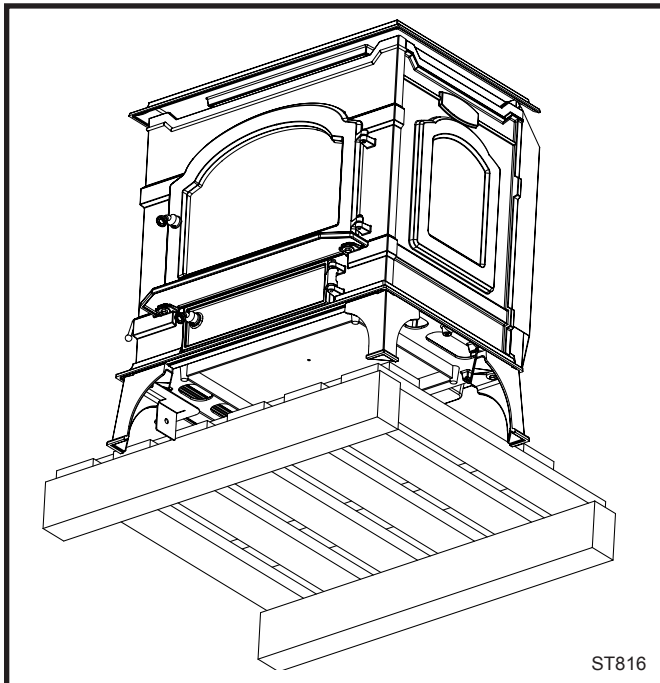

Fig. 17 Reposition stove so one rear leg can be attached.
4. In the hardware bag, locate the four legs, the door handle insert holder, (on this leg only, the door handle insert holder is used along with a washer), (4) 1/4-20 x 1" leg bolts and four (4) washers.
7. Reposition the stove so the first rear leg can be attached. Attach the leg using the procedure described in Step 6. (Fig. 17)
9. Remove the (4) 1/4-20 x 3/8" hex head bolts from the mounting bosses and attach the bottom heat shield using the same bolts.